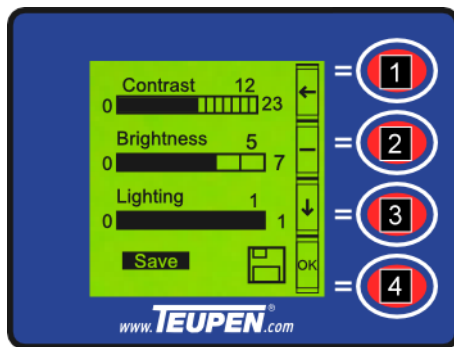

Fig. 70: Saving the display setup
3. → Use the *[function key]* (Fig. 70/3) to set the cursor to "save".
⇒ The assignment of the *[function key]* (Fig. 70/4) jumps to "OK".
4. → Use the *[function key]* (Fig. 70/4) to confirm the setting.
5. → Use the *[function key]* (Fig. 70/1) to return to the *[Setting]* menu.